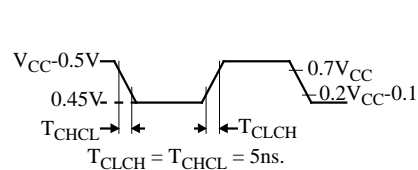

Figure 20. Clock Signal Waveform for I_{CC} Tests in Active and Idle Modes
8. Operating I_{CC} is measured with all output pins disconnected; XTAL1 driven with T_{CLCH} , $T_{CHCL} = 5$ ns (see Figure 20.), $V_{IL} = V_{SS} + 0.5$ V, $V_{IH} = V_{CC} - 0.5$ V; XTAL2 N.C.; $\overline{EA} = \text{Port } 0 = V_{CC}$; $RST = V_{SS}$. The internal ROM runs the code 80 FE (label: SJMP label). I_{CC} would be slightly higher if a crystal oscillator is used. Measurements are made with OTP products when possible, which is the worst case.